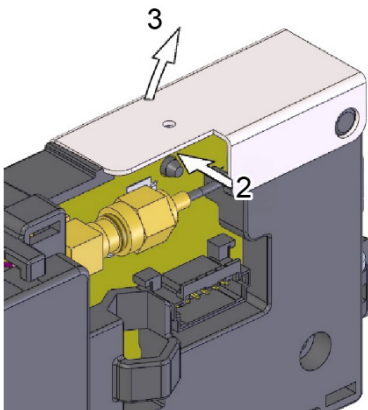

Fig. 29: Lift SIM card cover
- Push slightly in the direction of arrow (fig. 29, item 2) on the SIM card cover and tip it to the vertical position (fig. 29, item 3).